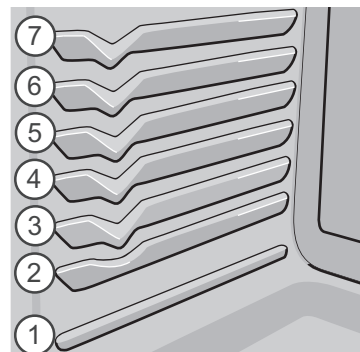

Fig. 8 Oven rack positions
- For best results when baking cakes using two oven racks, place racks in positions 3 and 6. (Fig. 8, on page 14)